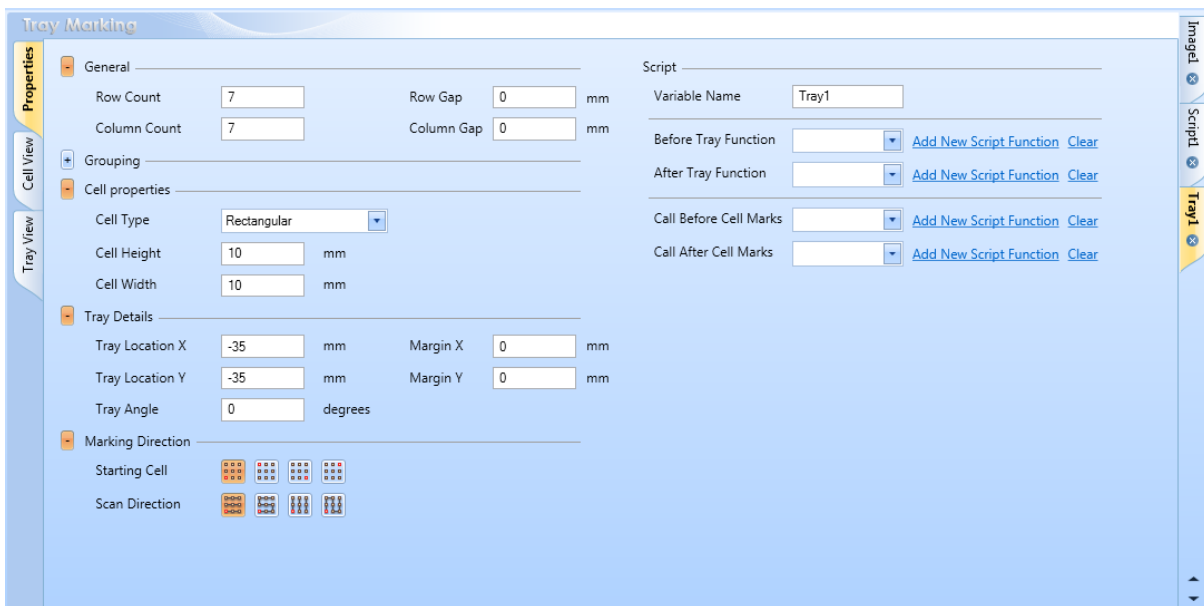

Figure 602: Tray Marking Properties
1. Left-click the **Tray** icon  located in the **Project | Automation** panel of the **Ribbon**. This creates a tray with default values of tray properties. The **Tray Marking Properties** window is displayed as shown in Figure 602 (below).